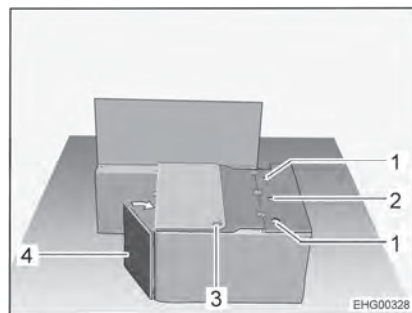

Fig. 23 During conversion
- Swing the bench seat panel (Fig. 23,4) towards the side wall.
- Route the safety belt with the seatbelt lock through the orifice (Fig. 23,3) in the bench seat cover.
- Insert the backrest of the attachable seat into the side holders (Fig. 23,1) and tighten the star knob screw on the centre holder (Fig. 23,2) by hand.